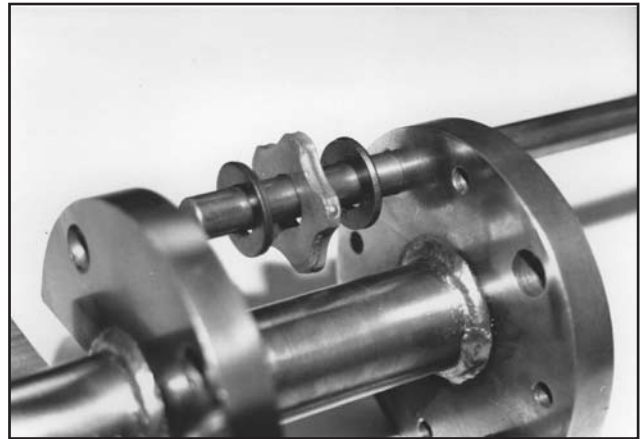

FIGURE 16
1) Install a spacer washer next to the outside side plate of the narrow section. Next, install a flail. Follow with a spacer washer and continue the sequence until the section is full. FIGURE 16.